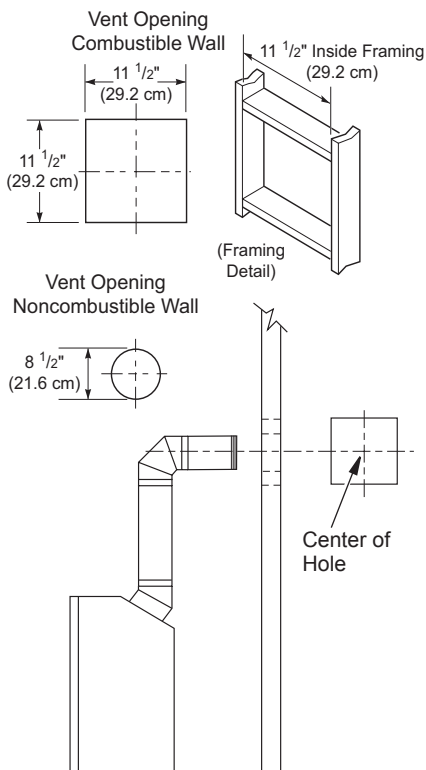

Figure 9 - Vent Opening Requirements
5. Carefully determine location where vent pipe assembly will penetrate outside wall. Center of hole should line up with center line of horizontal vent pipe. Mark wall for a 11 1/2" x 11 1/2" square hole. Cut and frame square hole in exterior wall where vent will be terminated. If wall being penetrated is constructed of non-combustible material, such as masonry block or concrete, a 8 1/2" hole with zero clearance is acceptable (see Figure 9).
dimensions, as shown in Figure 9 on page 10 using framing lumber the same size as ceiling joists. If area above ceiling is an insulated ceiling or an attic, nail firestop from top side. This prevents loose insulation from falling into required clearance space. If area above ceiling is a living space, install firestop below framed hole. Firestop should be installed with no less than three nails per side (see Figure 20).
3. Cut a hole in roof using locating hole as a center point. (Cover any exposed open vent pipes before cutting hole in roof.) The 11 1/2" x 11 1/2" hole must be measured on the horizontal; actual length may be larger depending on pitch of roof. There must be a 1" clearance from vent pipe to combustible materials. Frame opening as shown in Figure 9, page 10.